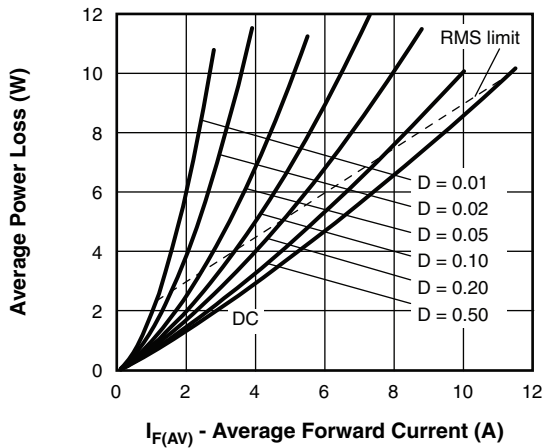

Fig. 6 - Forward Power Loss Characteristics
- (1) Formula used:  $T_C = T_J - (P_d + P_{dREV}) \times R_{thJC}$ ;
- $P_d$  = forward power loss =  $I_{F(AV)} \times V_{FM}$  at  $(I_{F(AV)}/D)$  (see fig. 6);